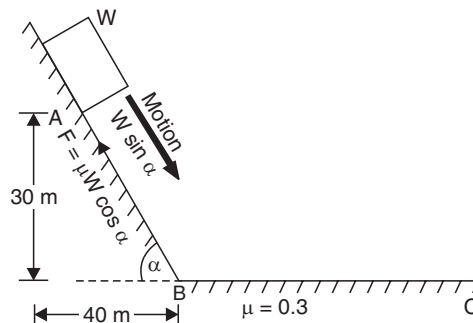

Fig. 9.14
**Example 9.20.** A small block starts from A and slides down the inclined plane AB as shown in Fig. 9.14. What distance along the horizontal plane BC will it travel before coming to rest? Given that  $\mu = 0.3$ .